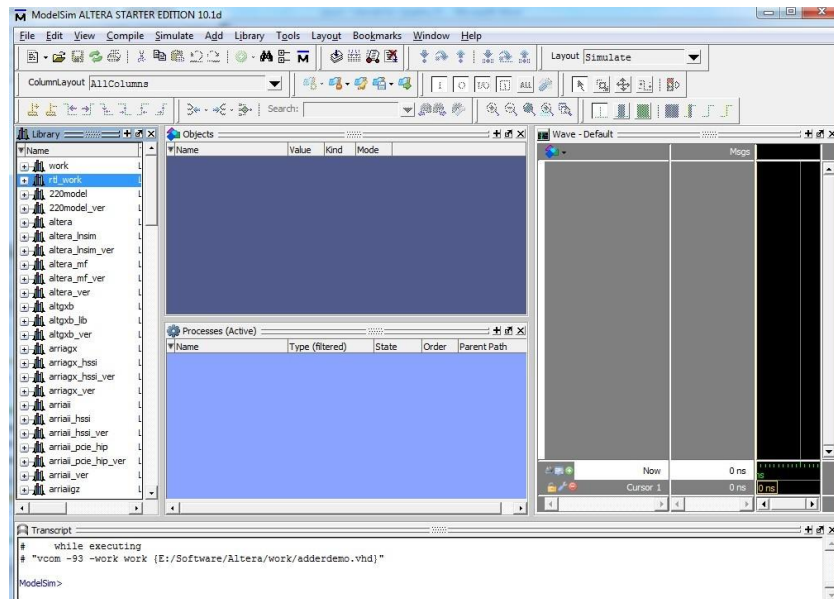

Figure 14
**Select Tools > Run Simulation Tool > RTL simulation** to start ModelSim within Quartus II, as shown in Figure 14.